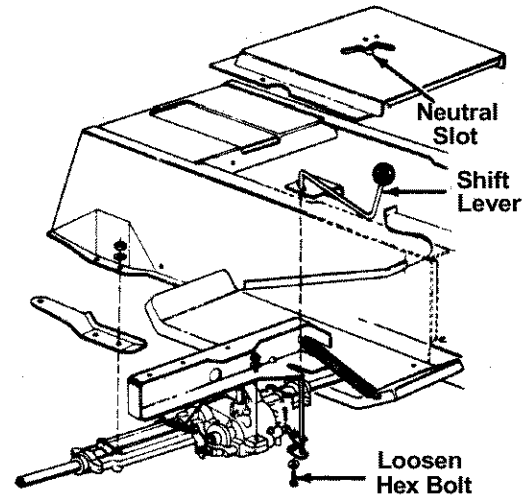

Figure 14
- Loosen the bolt which secures the shift lever assembly to the shift lever link. See Figure 14.
- Place the shift lever in the neutral slot. See Figure 14.